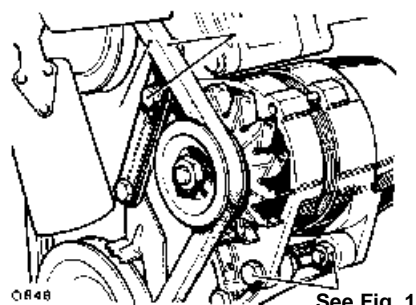
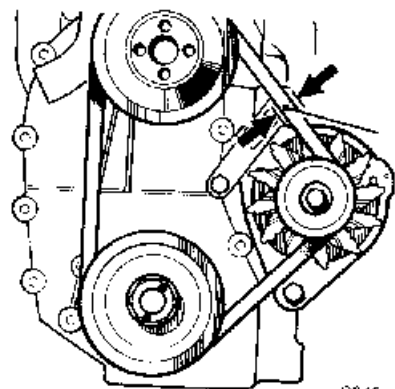
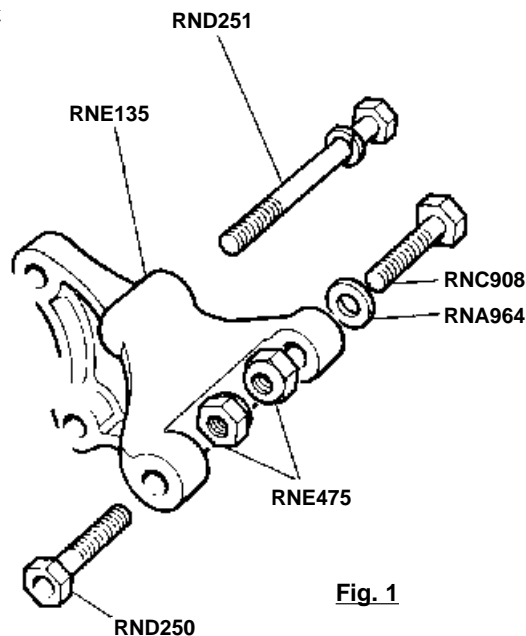

Fig. 2
Fig. 3
Fig. 1
- Offer the alternator up to the newly installed bracket. The tabs on the alternator go on the outside of the brackets. Fit the pivot bolts in place, the shorter one in the front and the longer one with the washer, in the rear (see fig.1). The bolts fit from the outside of the brackets only. Secure the adjustment arm to the upper tab of the alternator (see fig. 2). Fit the fan belt around all three pulleys. Using a pry bar between the alternator and the block, tighten the alternator against the fan belt. The alternator is tight enough when the belt can be pushed 1/4" between the alternator and the water pump pulleys, securing hardware (18 ft/lbs) (see fig. 3). Tighten all.
See Fig. 1